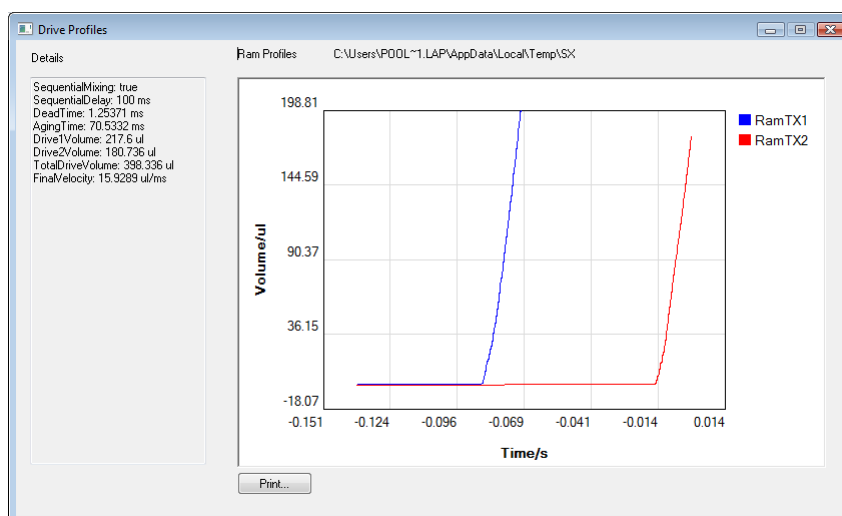

Figure 2-31: the Drive profiles window
7) Carry out several drives and check that the drive 1 volume is 220  $\mu\text{l}$  ( $\pm 10 \mu\text{l}$ ) and the drive 2 volume is 180  $\mu\text{l}$  ( $\pm 10 \mu\text{l}$ ) from the **Drive Profiles** data (Figure 2-31). The drive volumes and measured delay time should be consistent from run to run.